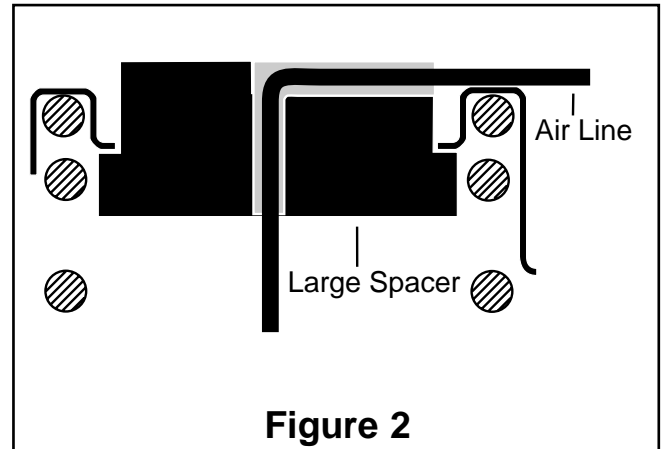

Figure 2
6. Insert large spacer into the coil. Route the air line through the hole in the spacer and push spacer into the hole in the upper spring seat (Figure 2). Route airline horizontally through groove in the spacer. Repeat this process for the other side.
If the vehicle has a rough and harsh ride it may be due to either too much pressure or not enough (fig. 2). Try different pressures to determine the best ride comfort.